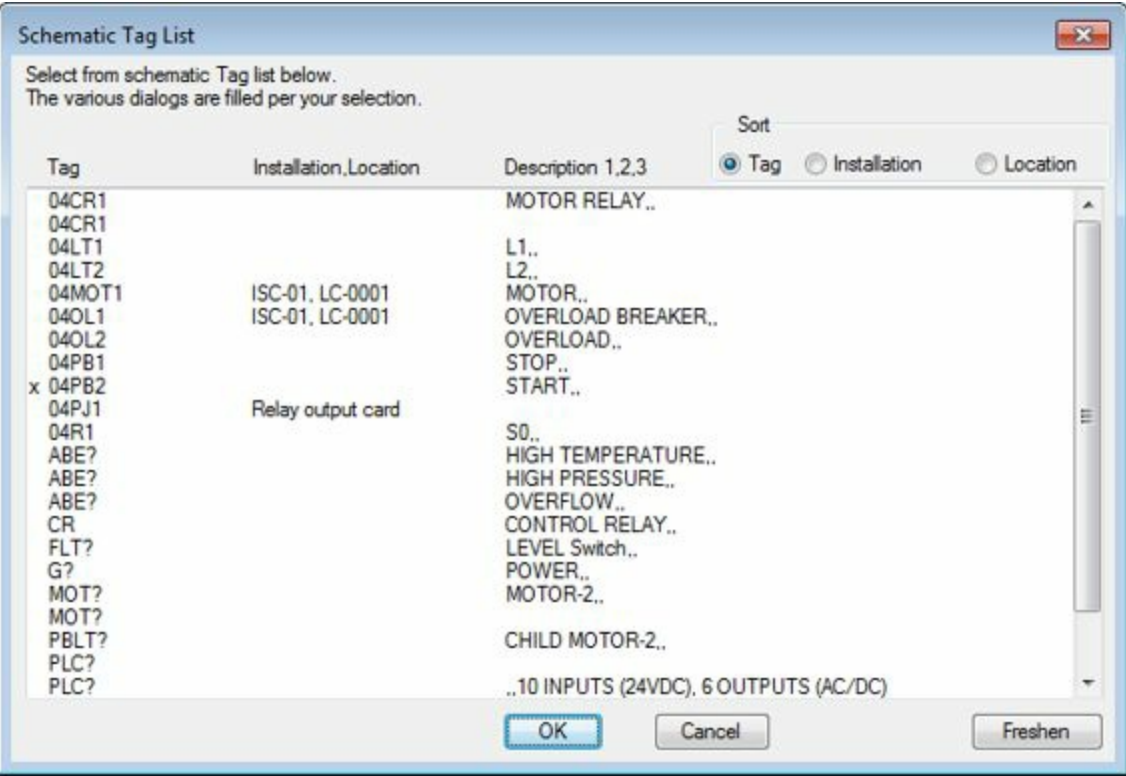

Figure-11. Schematic Tag List dialog box
- Click on the **Schematic List** button below **Tag** edit box in the **Component Tag** area to display the list of tags used in the drawing/project. The **Schematic Tag List** dialog box will be displayed; refer to Figure-11.